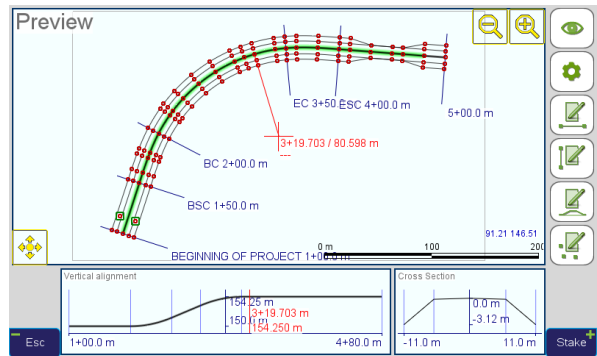

Figure 49
- **Zig-zag** — all alignment components are utilized (centerline, cross-section sidelines and offset points) — sample shown in Figure 49.